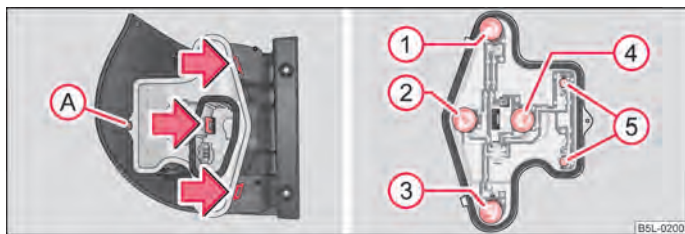

Fig. 188 Remove the middle part of the light/rear light unit: Fitting position of the bulbs
- Unscrew the securing screw (A) with the aid of the Torx wrench and press the three catches in direction of arrow ⇒ fig. 188.
- In order to replace a bulb for the brake light, reversing light, rear fog or turn signal light, turn the fixture of the bulb to the left up to the stop and take the bulb out of the housing or pull the bulb for the parking light out of the fixture ⇒ fig. 188.
- Insert the plastic lamp holder into the illumination unit until the interlocks are heard to engage and screw in the securing screw with the aid of the Torx wrench ⇒ fig. 188.
Fitting position of the light bulbs in the rear light unit ⇒ fig. 188